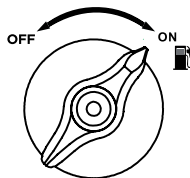

Figure 7: Turn Fuel Switch to ON Position
- ① 240/120V Main Circuit Breaker Operating Position
- ② 240/120V Main Circuit Breaker Tripped Position
- ③ 120V Circuit Breaker Operating Position
- ④ 120V Circuit Breaker Tripped Position
5. Turn the Fuel Control Switch to the **ON** position (see Figure 7).
4. Confirm that the Fuel Control Switch is in the **ON** position (see Figure 7).